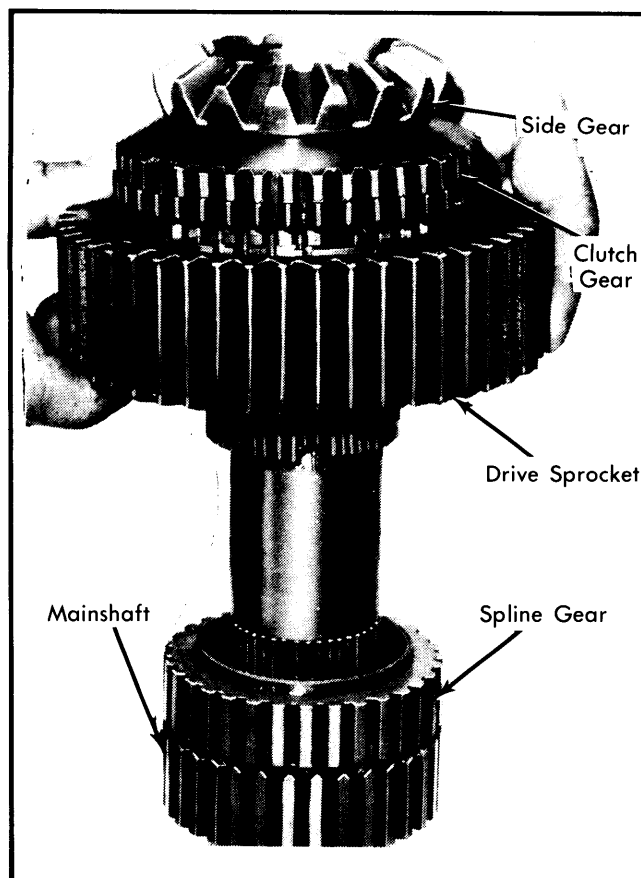

Fig. 3 Removing Drive Sprocket, Clutch Gear, Side Gear and Sprocket Carrier from Mainshaft
Disassembly — 1) Grasp drive sprocket and lift sprocket, clutch gear and side gear upward and off mainshaft. Remove mainshaft needle bearings (82) and bearing spacers (3) from mainshaft. Note spacer position for reassembly reference. See Fig. 3.